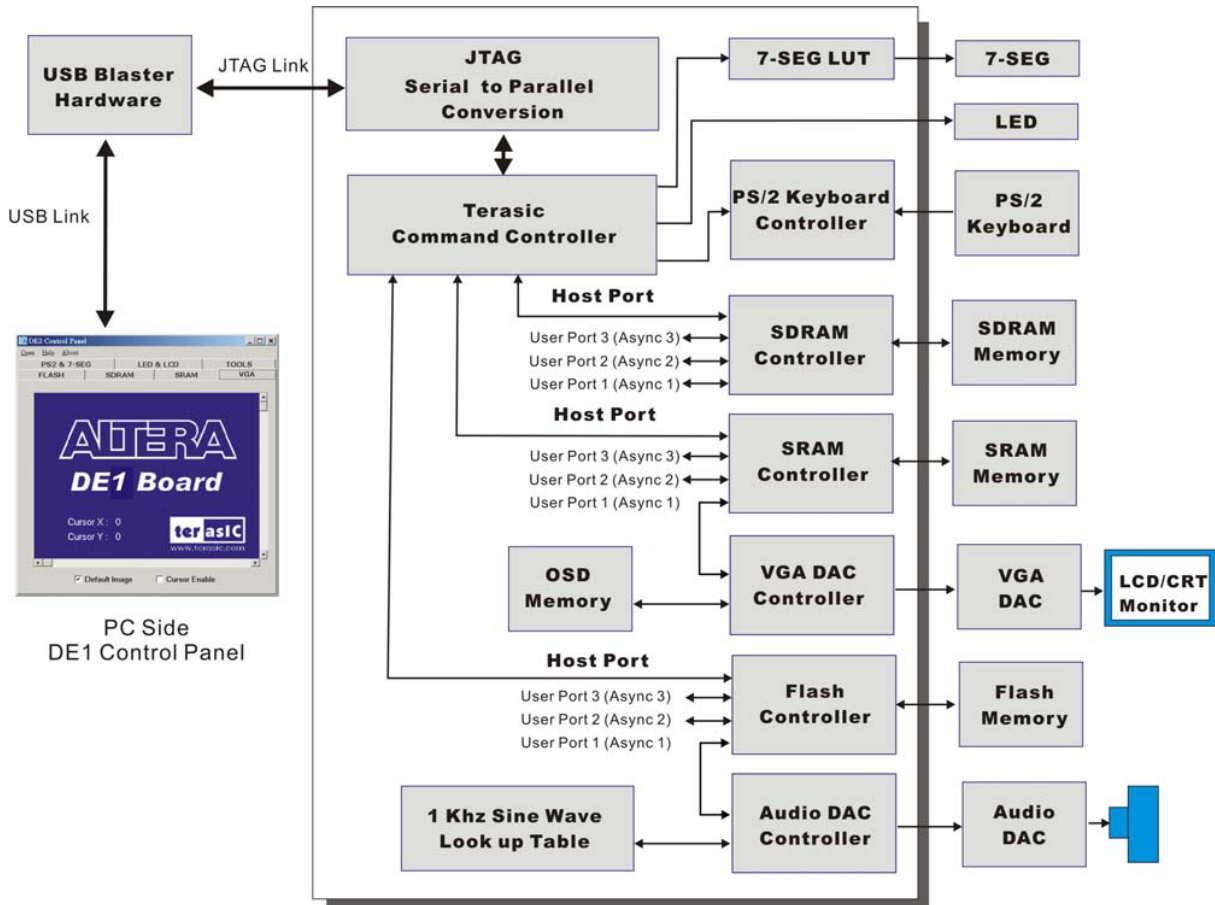

Figure 3.7. The DE1 Control Panel block diagram.
To run the Control Panel, the user must first set it up as explained in Section 3.1. Figure 3.7 depicts the structure of the Control Panel. Each input/output device is controlled by a controller instantiated in the FPGA chip. The communication with the PC is done via the USB Blaster link. A Command Controller circuit interprets the commands received from the PC and performs the appropriate actions. The SDRAM, SRAM, and Flash Memory controllers have three user-selectable asynchronous ports in addition to the Host port that provides a link with the Command Controller. The connection between the VGA DAC Controller and the FPGA memory allows displaying of the default image shown on the left side of the figure, which is stored in an M4K block in the Cyclone II chip. The connection between the Audio DAC Controller and a lookup table in the FPGA is used to produce a test audio signal of 1 kHz.
3. Select the Asynchronous 1 port for the Flash Multiplexer and then click on the **Configure** button to activate the port. You need to click the Configure button to enable the connection from the Flash Memory to the Asynchronous Port 1 of the Flash Controller (indicated in Figure 3.7).
- Note that the Asynchronous Port 1 is connected to the Audio DAC part, as shown in Figure 3.7. Once you selected Asynchronous Port 1 and clicked the Configure button, the Audio DAC Controller will communicate with the Flash memory directly. In our example, the *AUDIO\_DAC* Verilog module defines a circuit that reads the contents of the Flash memory and sends it to the external audio chip.